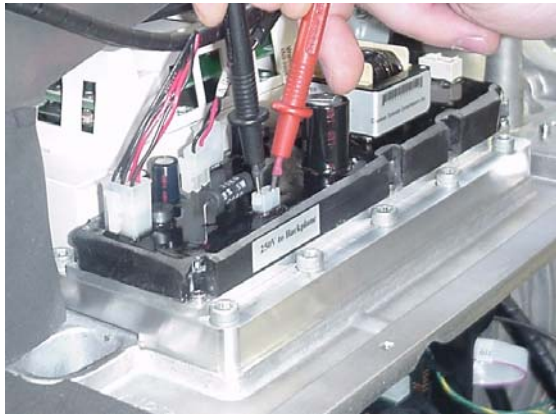

Figure 4-49 DC-DC Converter 250VDC Output Resistance Measurement
5. Place the meter probes and measure the resistance at the 250VDC output port, as shown in Figure 4-49.